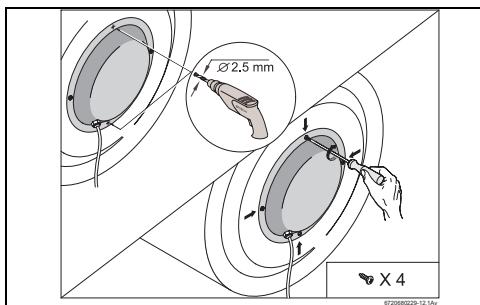

Fig. 11
- ▶ Make 2 extra holes with a diameter of 2,5 mm on the maintenance cap (→ Fig. 11).
- ▶ Apply the cap to those 2 holes with the screws provided (→ Fig. 11).